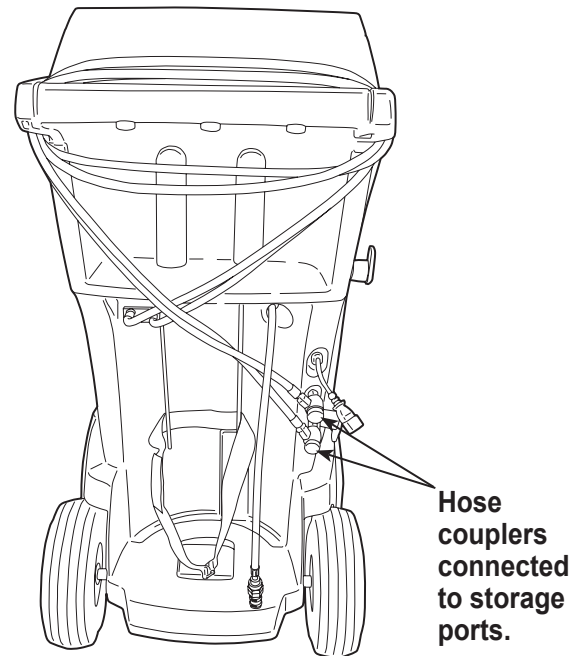

Figure 12
2. Loop the service hoses around the handle twice and attach them to the storage ports. See Figure 12.